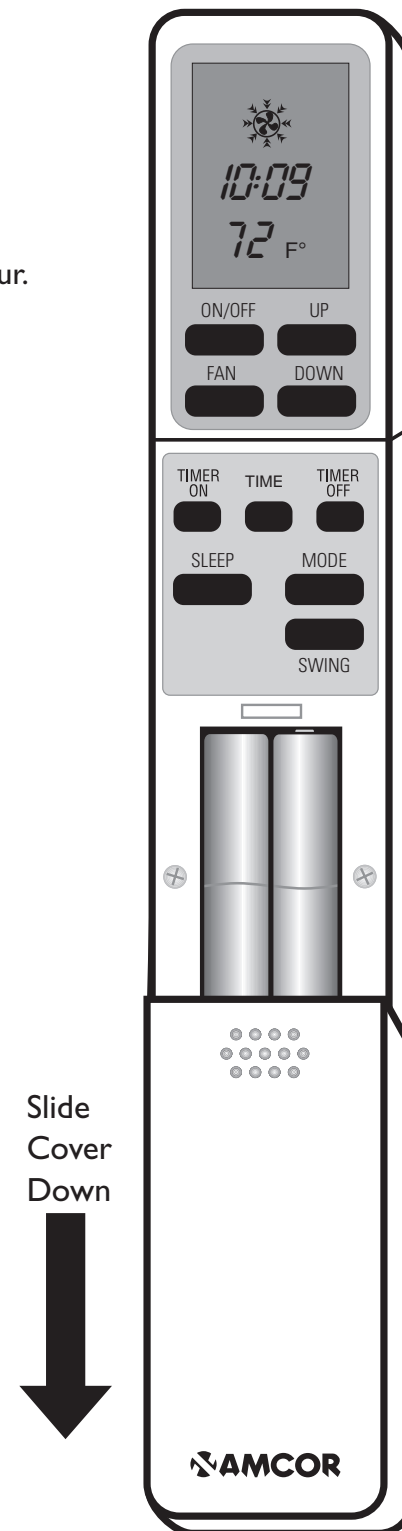

fig.1
- Separate the filter fixer from the filter holder (see fig. 1).
Insert batteries by pulling down on front cover (See fig. 1).